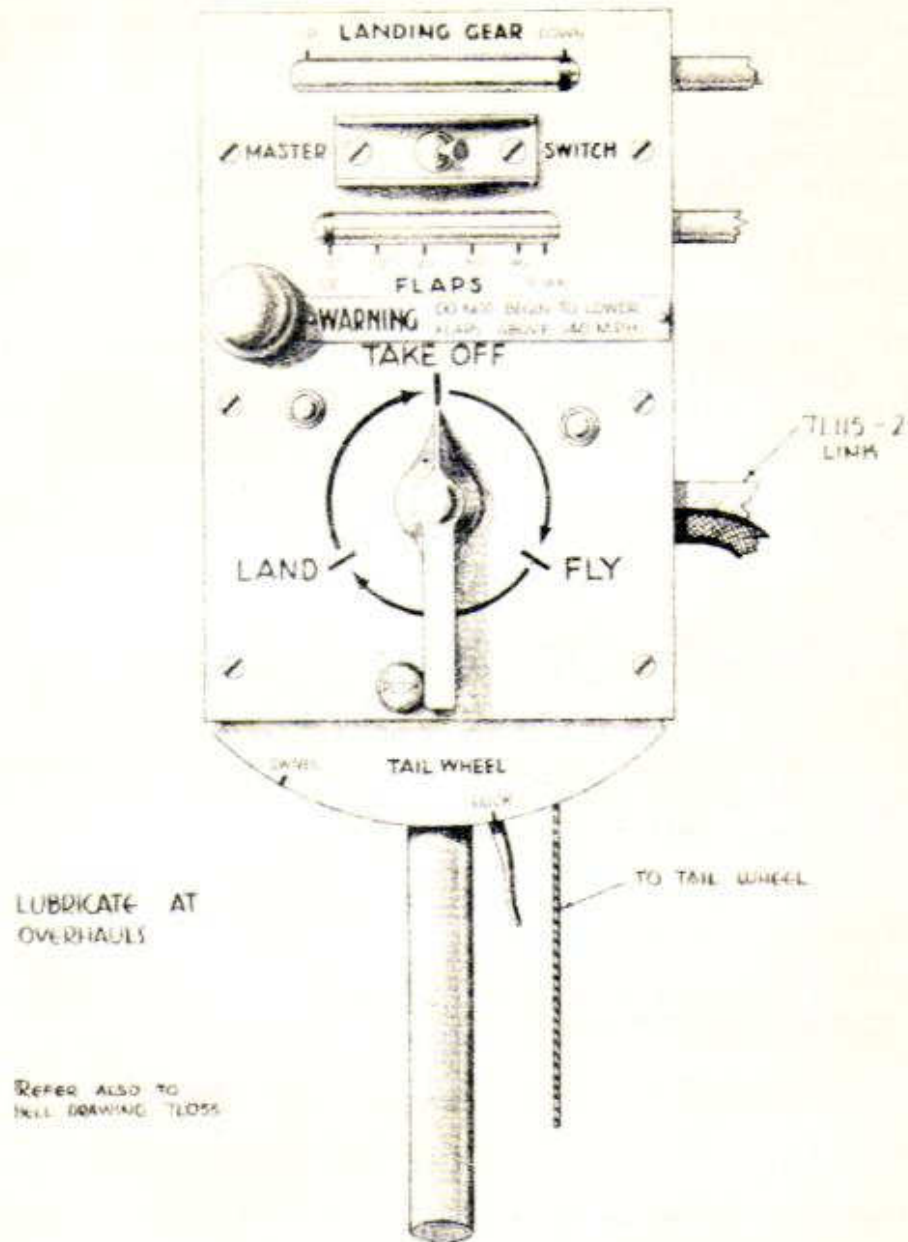

FIG. 7 - LANDING GEAR & FLAP CONTROL BOX
(5) Flaps: Operation of the flaps is described in paragraph b., below. Refer also to T. O. No. 01-1-60.
b. Landing Gear Controls. - (1) General: Figure 7, clearly illustrates the landing gear and flap control box which includes the tail wheel lock.
(2) Landing: Turn selector switch to "LAND". The landing gear will extend first, as shown by the landing gear indicator on the control box. When the landing gear is completely extended, the flaps will extend automatically to 40 degrees down. Any degree of flap deflection may be selected, however, by moving master switch to "OFF" position when flaps are at the desired deflection. This may be done as soon as the landing gear warning horn indicates that the wheels are down. When the master switch is moved to the "ON" position, the flaps will continue down.
(3) Take Off: Upon landing, rotate selector switch to "TAKE OFF" position to retract flaps. This operation engages a brake on the landing gear, eliminating possibility of wheel retraction while airplane is on the ground.